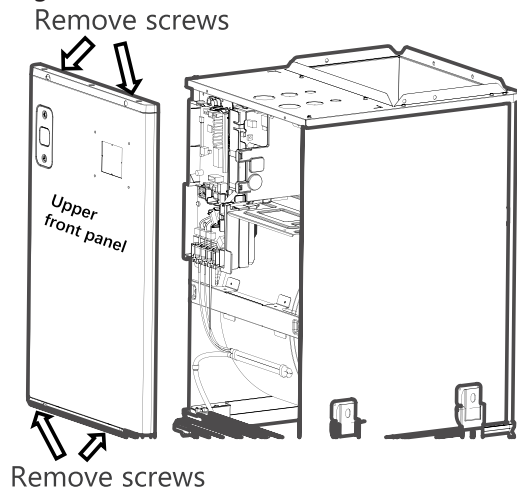

Fig. 1-1: Remove Upper Front Panel
1. Remove the four screws and open the upper front panel. See Fig. 1-1.
2. Remove the four screws and open the upper front panel. See Fig. 1-1.